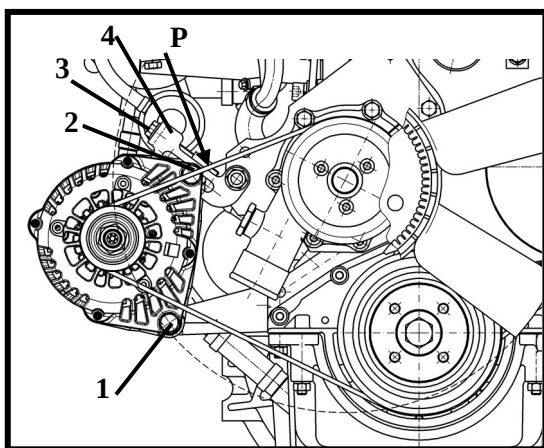

Fig. 10. Alternator and water pump drive
a) Replace and tension alternator and water pump drive belt (see Fig. 10)